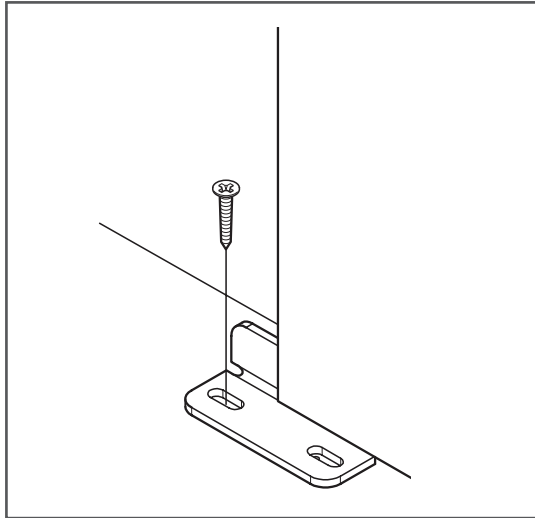

Figure 13
15. Position the door guide (H.) part way into the groove in the bottom of the panel or door (Figure 13).